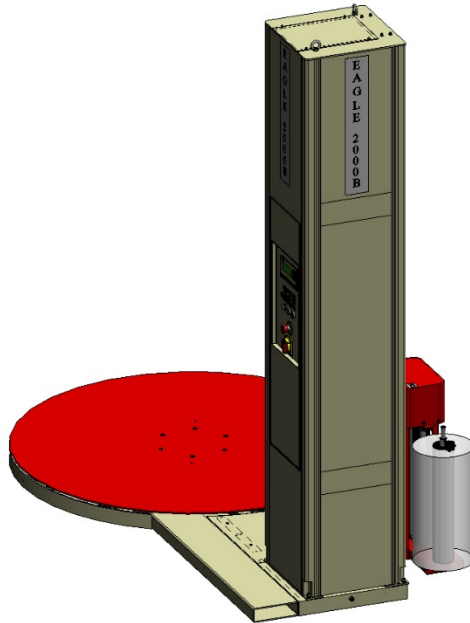

Fig. 2-10
Step 7 - Fasten the lower rear panel into the corresponding position on the post using the pin. (See Fig. 2-10)